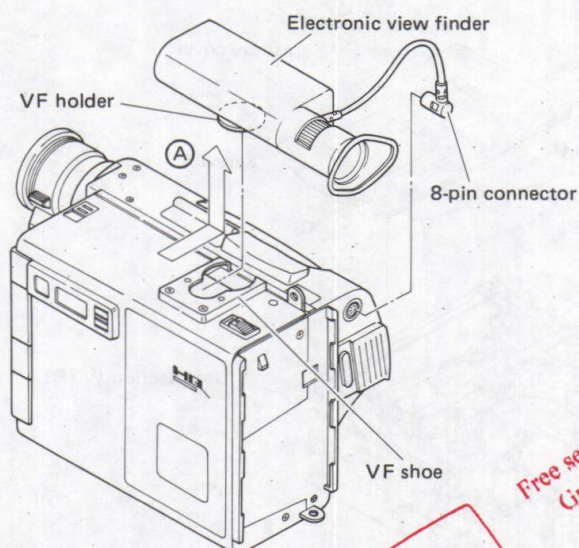

Fig. 1-1-1
1. Refer to Fig. 1-1-1 and disengage the 8-pin connector. While gently pressing the viewfinder upward, slide it in the direction shown by the arrow (A) to remove it.